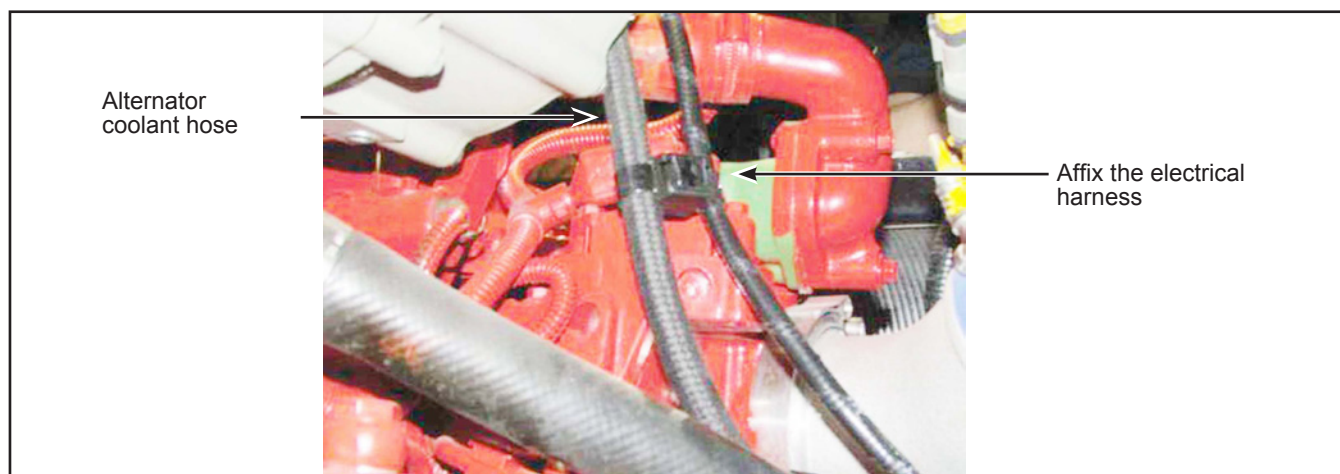

Figure 8 - Tie Wraps Affixing Location
- 1.15. Affix the new electrical harness to the alternator coolant hose with a tie wrap. See Figure 8. Reinstall the retained loom.